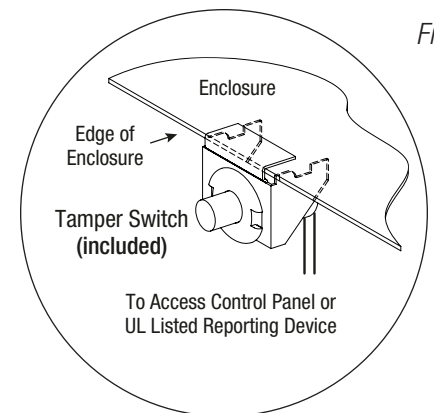

Fig. 1
3. Mount included UL Listed tamper switch (Altronix Model TS112 or equivalent) in desired location, opposite hinge. Slide the tamper switch bracket onto the edge of the enclosure approximately 2" from the right side (*Fig. 1, pg. 2*). Connect tamper switch wiring to the Access Control Panel input or the appropriate UL Listed reporting device. To activate alarm signal open the door of the enclosure.
5. Refer to the *eFlow Power Supply/Charger Installation Guide* for eFlow6NB and eFlow104NB and corresponding *Sub-Assembly Installation Guides* for the following models: ACM8(CB), ACM4(CB) and T1618300K for further installation instructions.